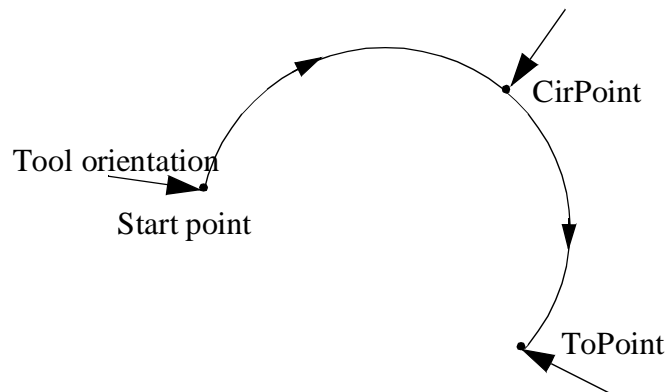

Figure 2 Tool orientation during circular movement.
- The reorientation is performed relative to the circular path. Thus, if the orientation relative to the path is the same at the start and the destination points, the relative orientation remains unchanged during the movement (see Figure 2).